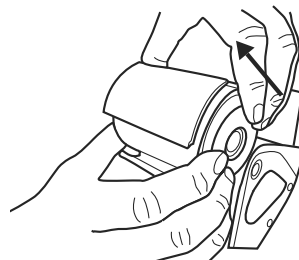

Figure 3
3. Remove core set by pulling it away from dispenser. (See Figure 3)